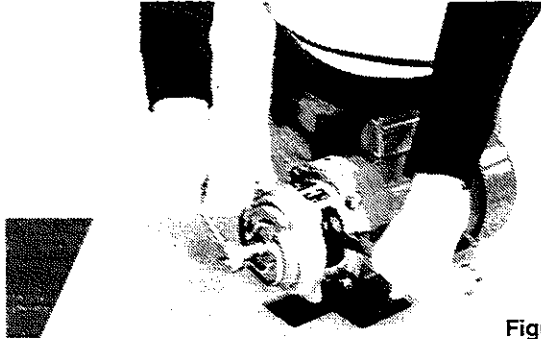

Figure 4
⑤ C56 FRAME MOTOR
2. Insert wrench between openings in adapter and place on flats of stub shaft. While holding shaft against rotation, remove the impeller retaining assembly using a 7/16 socket (Fig. 4).